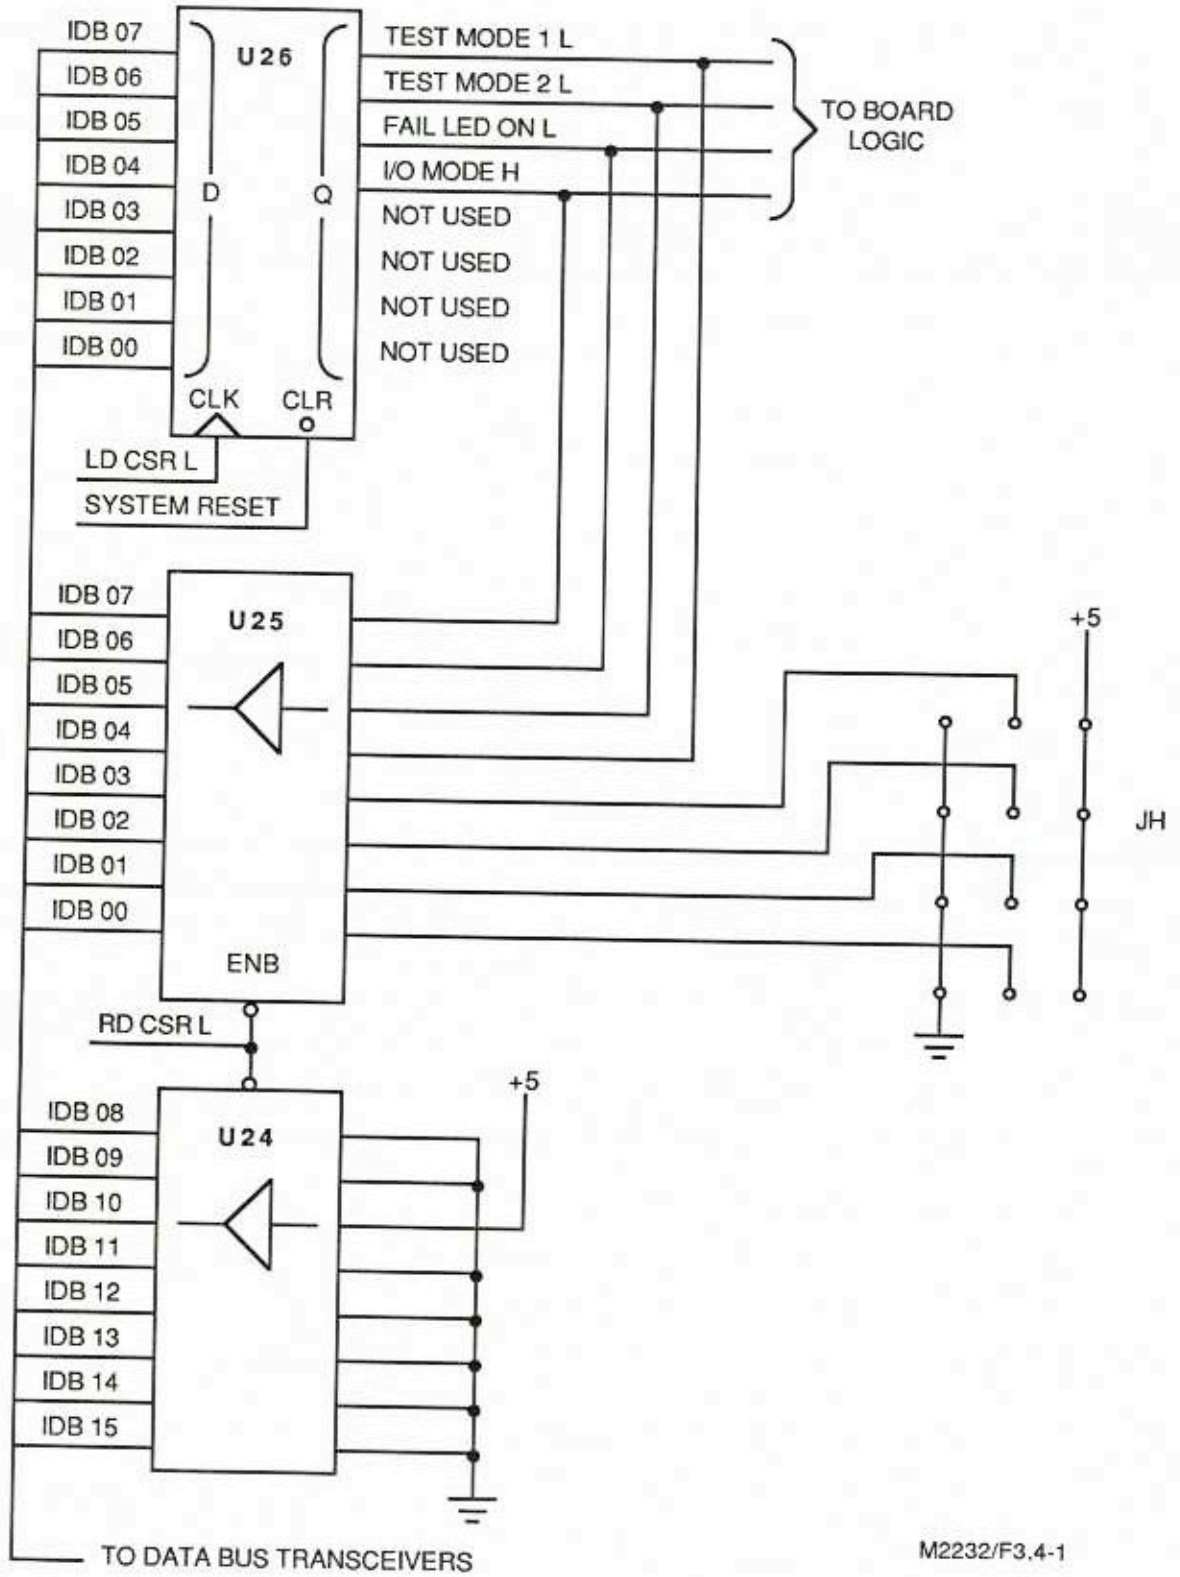

Figure 3.4-1. CSR Block Diagram
The CSR controls the Test Mode (TM) Bits and the front panel Fail LED as shown in Figure 3.4-1. The TM bits are used for relay enabling and diagnostic testing. TM1 is used to enable/disable the relay drivers which operate the relays. TM2 is used to control data register read-back functions. When reading a data register, TM2 is used to select either the data registers or the relay drivers as the data source for read-back. The I/O mode bit is reserved for possible future enhancements to this product and is not used at this time. The user should write a zero to this I/O mode bit.
The CSR register controls the two TEST MODE (TM) bits and the front panel Fail LED as shown in Figure 3.4-1. The I/O mode bit is a reserved bit. TM1 enables the relay drivers which operate the relays. TM2 selects between the data register or relay driver outputs as the data source when reading at the data register address. The format of the CSR data and the Output Data Registers (ODRs) is shown in Table 4.2-1. The CSR is initialized to all zeros upon system reset. Thus, the front panel Fail LED is illuminated and the relay drivers are disabled at power-up.